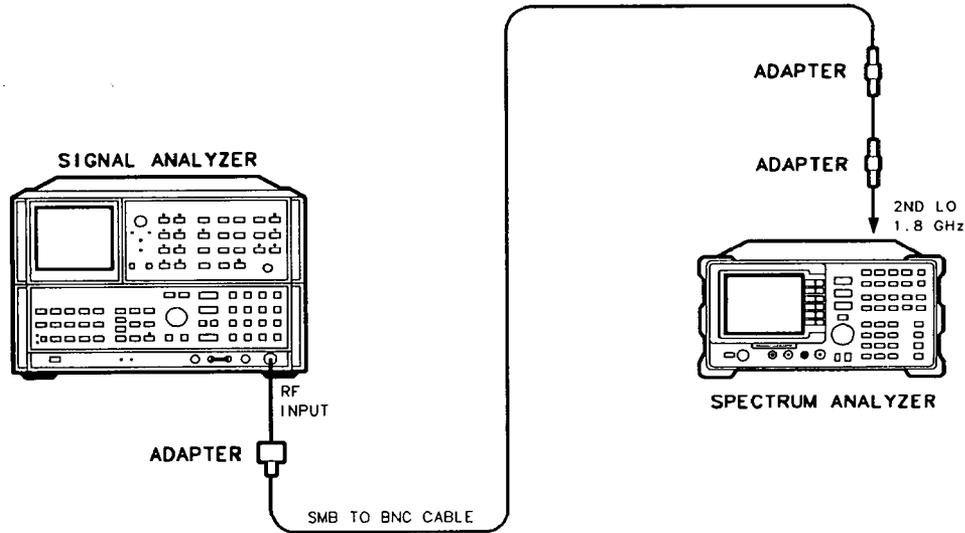

Figure 2-18. Tripler Adjustment Setup
4. Connect the HP 8566A/B to the 2ND LO 1.8 GHz port on the A5 Second Converter using SMB adapters and the test cable. See Figure 2-18.